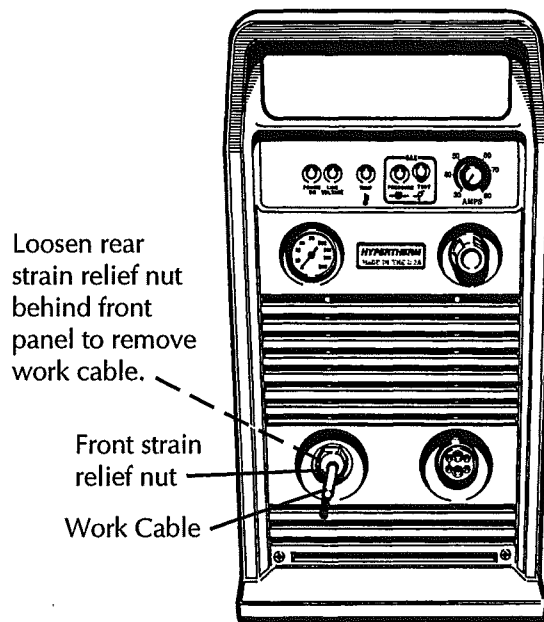

Figure 4 - Feed Work Cable Through Front of Powermax1100
7. Loosen the rear strain relief nut behind the front panel and pull the old work cable and strain relief from the power supply - Fig. 4.
8. Remove the rear strain relief nut on the new cable and press the strain relief into the hole in the front panel - Fig. 4.
14. Tighten the front strain relief nut - Fig. 4.